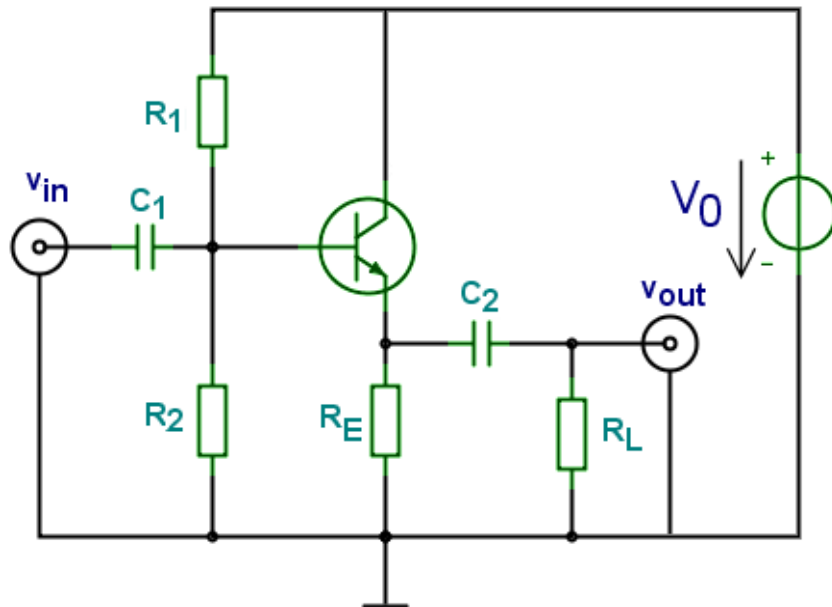

Figure 3.6: CC amplifier
3.3.1 Change our previous CE circuit according to **figure 3.6** to get a CC amplifier. Remove / short circuit R_C , remove C_E and put C_2 to the emitter to get the new output.